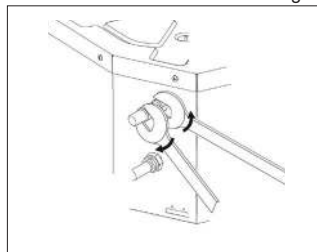

Fig. 1
- Tighten the connections using the "key against key" (Fig 1)